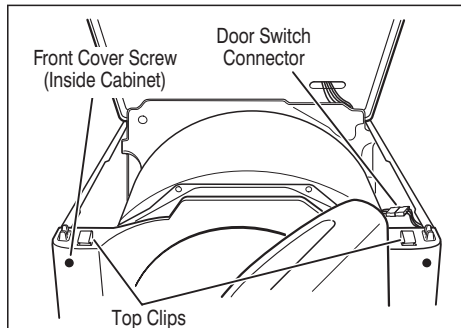

Figure 13. Slowly rotate top backward and support.
3. Push on the retaining clips located under top of dryer on the right and left side using a flat object such as a putty knife. See figure 13.
5. Disconnect the door switch wire harness located on the right side. See figure 13.